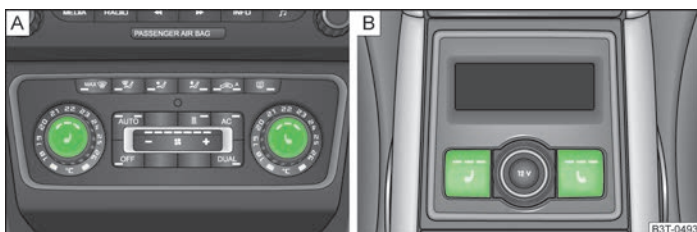

Fig. 56 Regulator for heating the front seats/rear seats
- The seat heaters on the driver's and front passenger's seat can be switched on and regulated by pressing the button in the area of the symbol or » Fig. 56 - A.
- The heaters on the left or right rear seats can be switched on and regulated by pressing the regulator or » Fig. 56 - B.